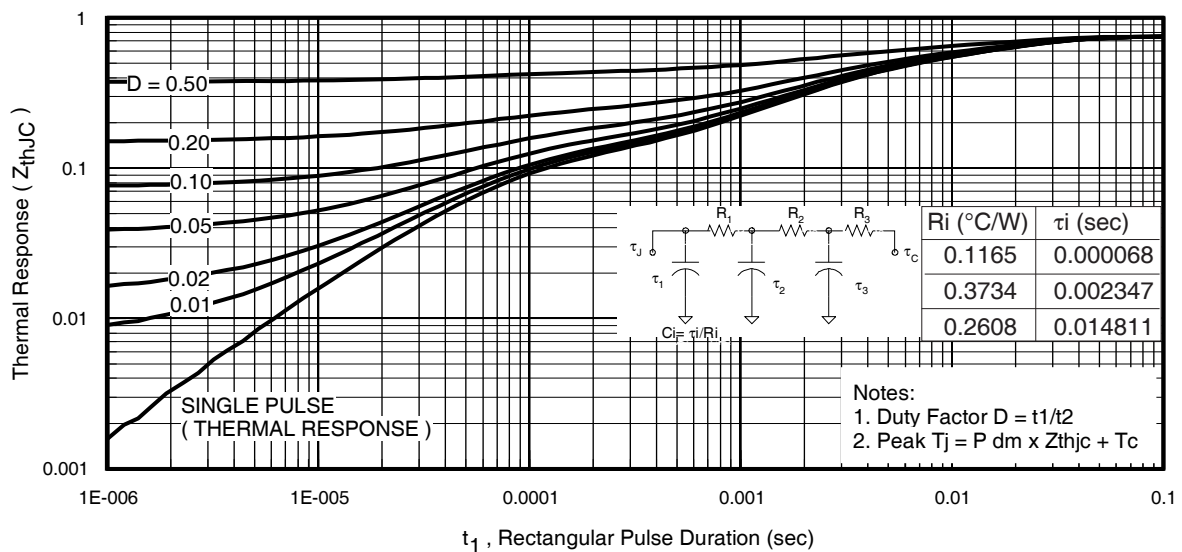
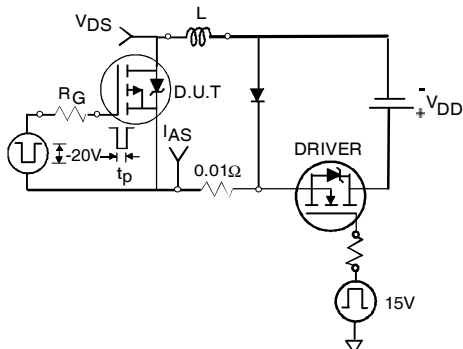

Fig 11. Maximum Effective Transient Thermal Impedance, Junction-to-Case
Fig 12a. Unclamped Inductive Test Circuit
- ① Repetitive rating; pulse width limited by max. junction temperature. (See fig. 11).
- ② Limited by T_{Jmax} ; starting $T_J = 25^\circ\text{C}$, $L = 0.16\text{mH}$ $R_G = 25\Omega$, $I_{AS} = -42A$, $V_{GS} = -10V$. Part not recommended for use above this value.
- ③ Pulse width $\leq 1.0\text{ms}$; duty cycle $\leq 2\%$.
- ④ $C_{oss\ eff.}$ is a fixed capacitance that gives the same charging time as C_{oss} while V_{DS} is rising from 0 to 80% V_{DSS} .
- ⑤ Limited by T_{Jmax} , see Fig.12a, 12b, 15, 16 for typical repetitive avalanche performance.
- ⑥ This value determined from sample failure population. 100% tested to this value in production.
- ⑦ This is applied to D²Pak, when mounted on 1" square PCB (FR-4 or G-10 Material). For recommended footprint and soldering techniques refer to application note #AN-994.
- ⑧ R_θ is measured at T_J approximately 90°C
3. Equation below based on circuit and waveforms shown in Figures 12a, 12b.
$Z_{thJC}(D, t_{av})$ = Transient thermal resistance, see figure 11)